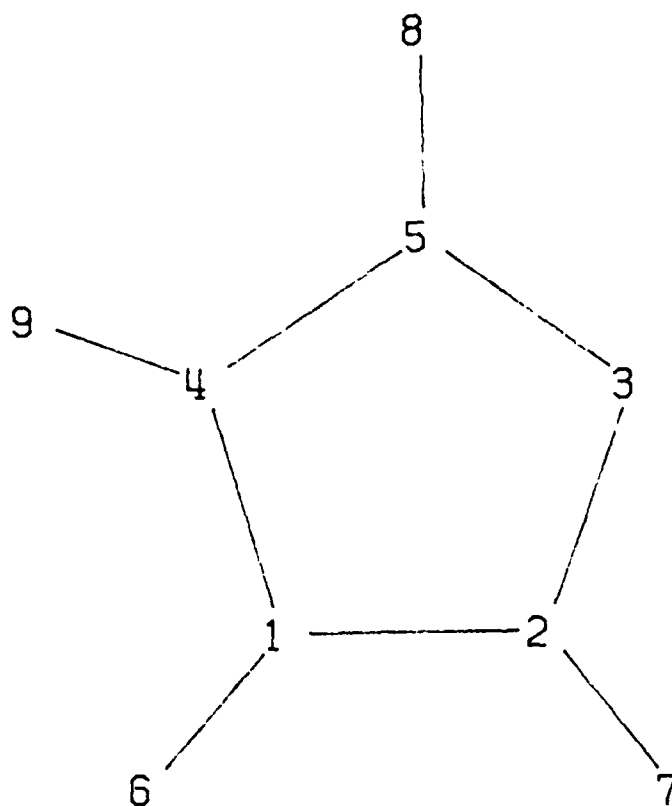

Figure 1. Imidazole shown with default settings.
DRAW is designed to run interactively. You will interact with the program in a flexible manner. When started, DRAW initializes certain data areas to allow all symbols except dummy atoms (symbol XX) to be drawn. The terminal type is set to NON-GRAPHIC with ZERO lines of text on the screen. Display style is set to draw STICK figures with atom positions LABELED with the NUMBER of the atoms. I have chosen these default settings because they provide the most rapid format of interaction for the widest range of uses. You can select your display parameters easily before beginning the slower process of drawing molecules. (See figure 1.)
- 8) **LABELS** Select or remove type of labels used in picture. The default is NUMBER where the label is the number of the atom in the molecule. (See figures 1 and 2.)